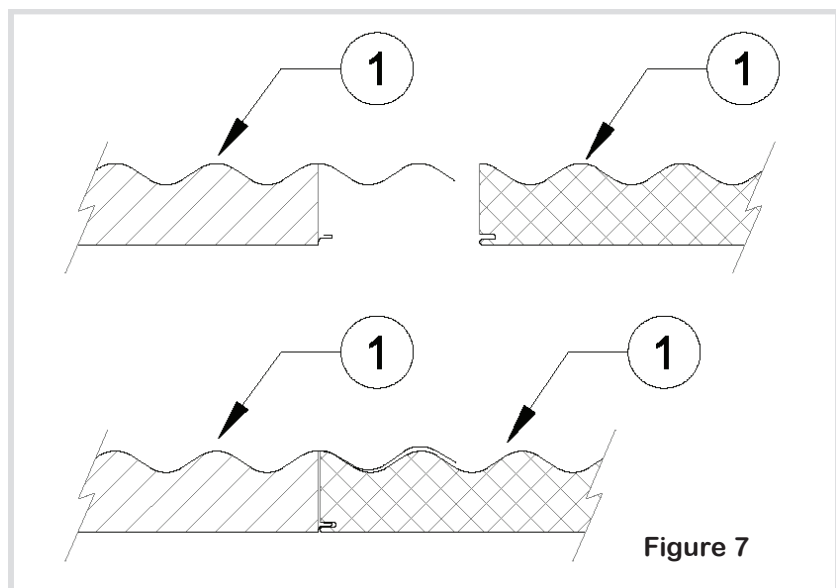

Figure 7
The separate roof panels are locked together as shown in Figure 7 with the corrugated overlap on one side of the panel overlapping the adjacent panel.
The second roof panel is then positioned against the first roof panel by sliding into the mating connection between the two panels as shown in Figure 7. This second panel is then secured to the receiver channel using wafer head screws (item 16). Take care not to damage the roof panel surface when sliding the panels together.